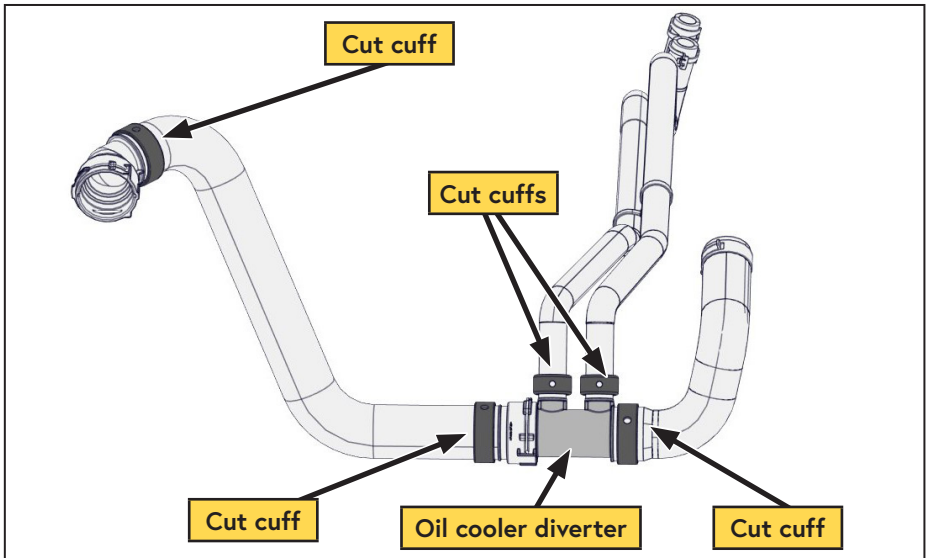

Figure 27 — Modify lower radiator hose assembly
- ☐ Carefully cut the (x5) molded plastic cuffs clamping the lower radiator hose to the oil cooler diverter valve and the OEM quick connect. After removing the cuffs, separate the hoses from the fittings (Figure 27).